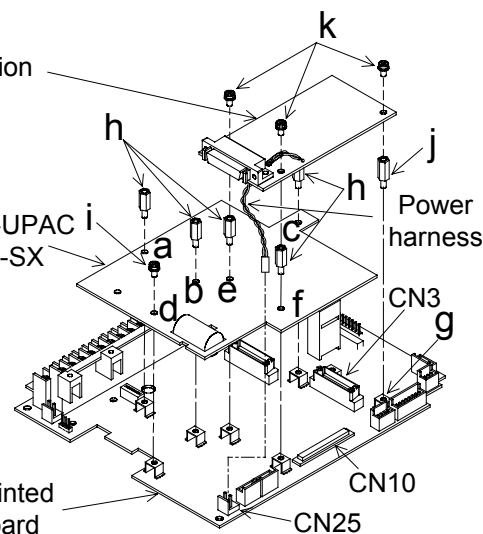

Fig. 7-12 Mounting Method of Digital Option (mounting at CN3)
- (1) Insert OPC-VG7-UPAC/SX into the connector (CN10) of the control printed circuit board.
- (2) Mount 5 spacers (h) and a screw (i) accompanying OPC-VG7-UPAC/SX in the mount holes (a, b, c, d, e, f) of the OPC-VG7-UPAC/SX, and mount a spacer (j) accompanying the option at the option's mounting fitting (g) of the control printed circuit board as shown in Fig. 7-12.
- (3) Mount the option so that the option connector (CN1) may be inserted into the connector (CN3) of the control printed circuit board.
- (4) Connect the power harness from the option to CN25 on the control printed circuit board.
- (5) Tighten 3 accompanying screws (k) in the mount holes of the option and fix the product.